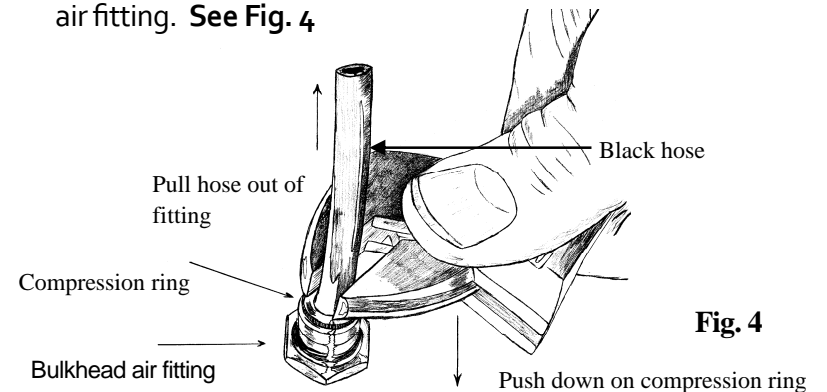

Fig. 4
- Black hose can now be removed by compressing lock ring on air fitting. **See Fig. 4**